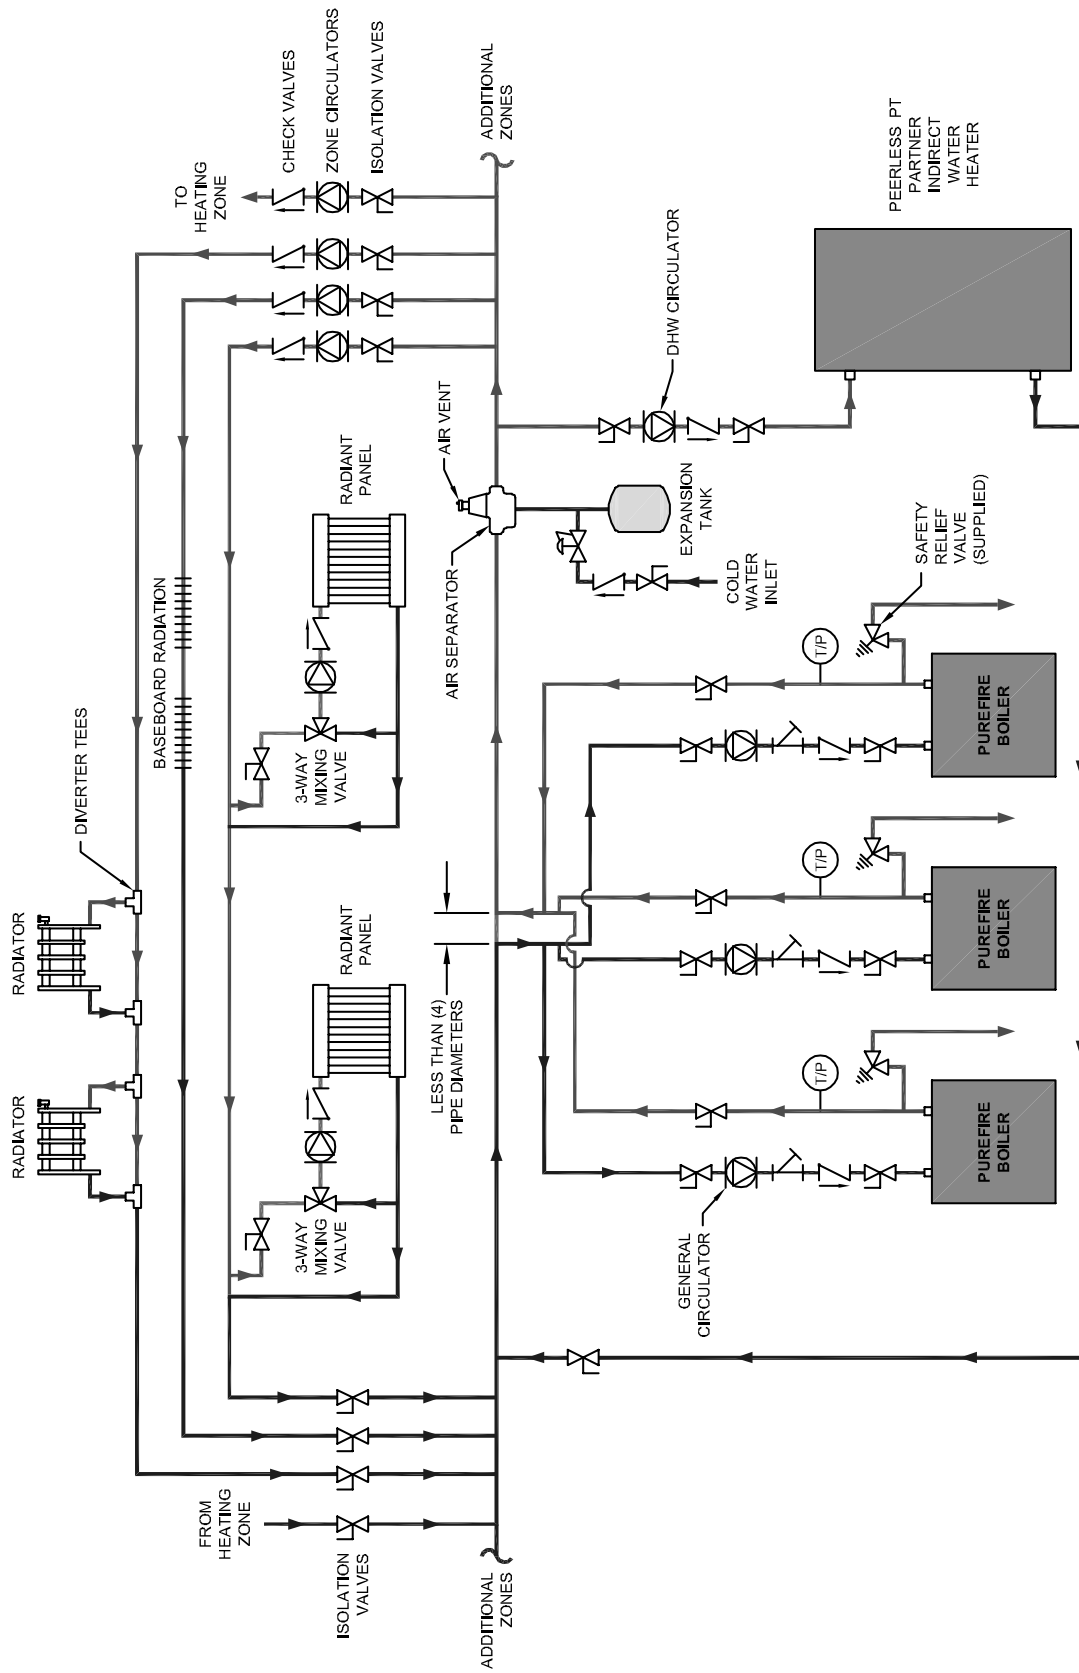

Figure 4.7: Three Boilers, Primary/Secondary with Five Zones (Zone Circulator)
4. Figure 4.7 shows a multiple boiler system with several different types of heat distribution units. This system illustrates how different temperature zones can be supplied from the same source by blending supply and return water to the zone.